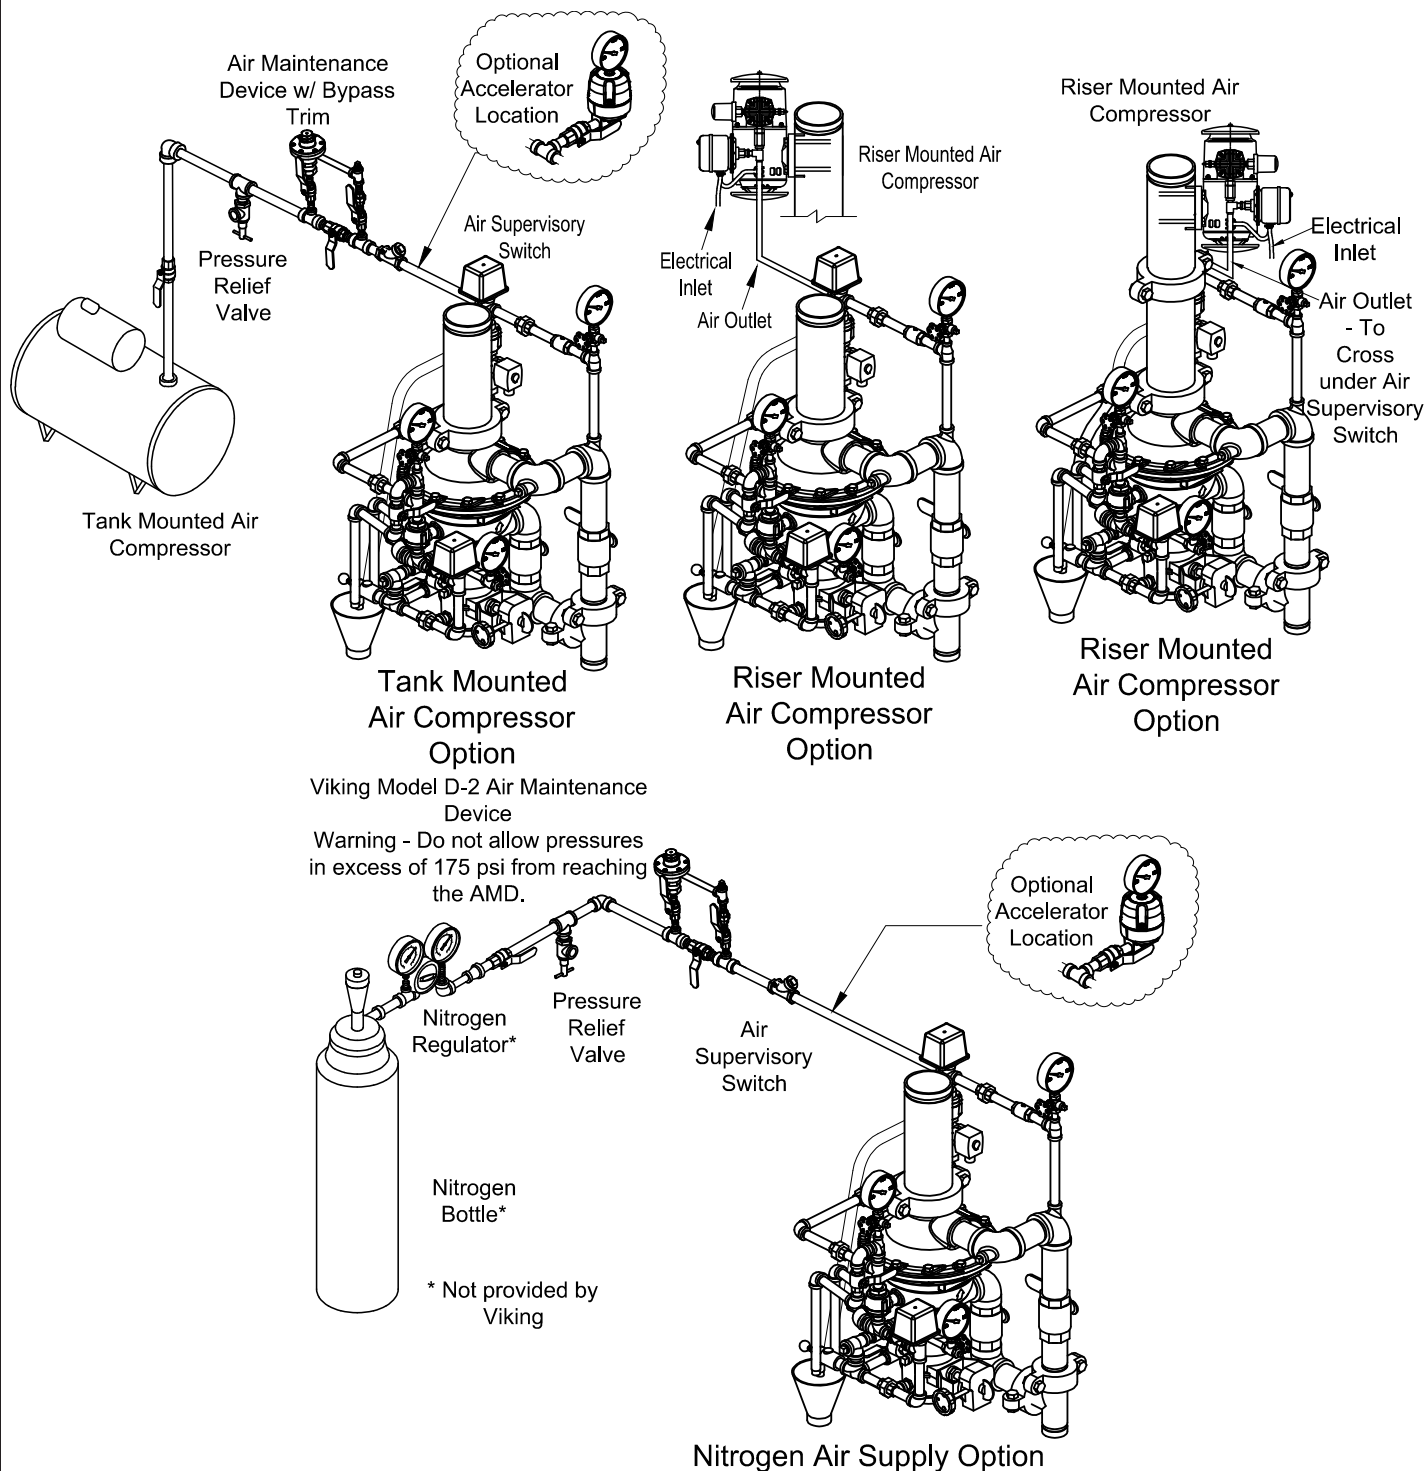

Figure 1 - Air Supply Options
- The Viking E-1 Accelerator should be installed at the location indicated in Figure 1 when required.
2. Nitrogen Cylinder Gas Supply (See Figure 1)